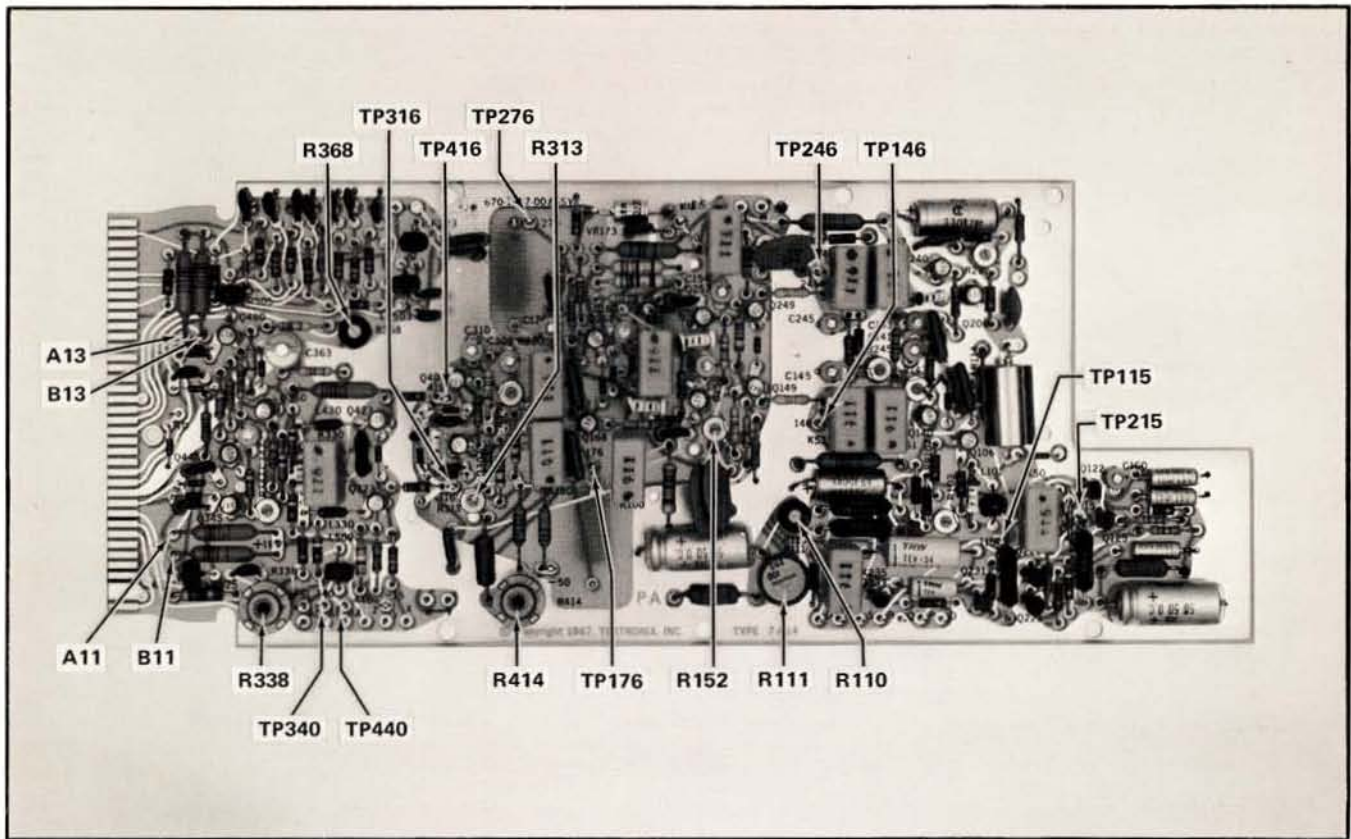

Fig. 5-1. Location of adjustment and test points for DC Balance checks.
Refer to Fig. 5-1 for location of test points.
- (1) Reset the voltmeter to the 12 volt scale.
- (2) Connect the voltmeter between A11 and B11 (the rearward end of R345 and R445. See Fig. 5-1).
- (3) **ADJUST—R338 for a null (zero) reading on the voltmeter. Shift to the lowest scale for the final adjustment.**